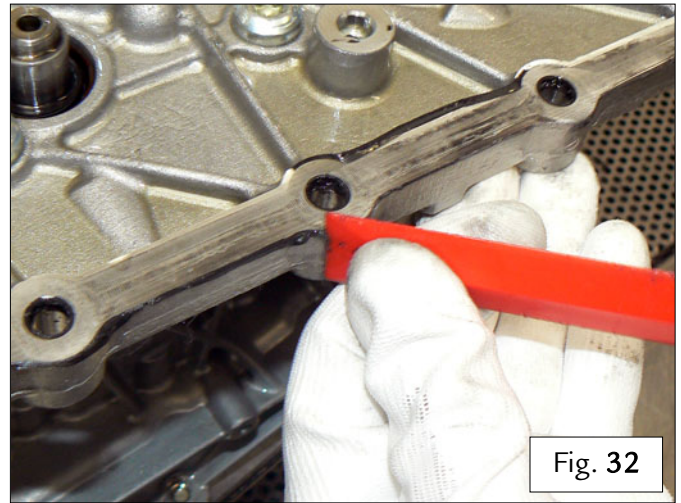

Fig. 32
- Using a Teflon spatula, remove all traces of sealant from the surfaces of the interface plate and the differential housing – Fig. 32.